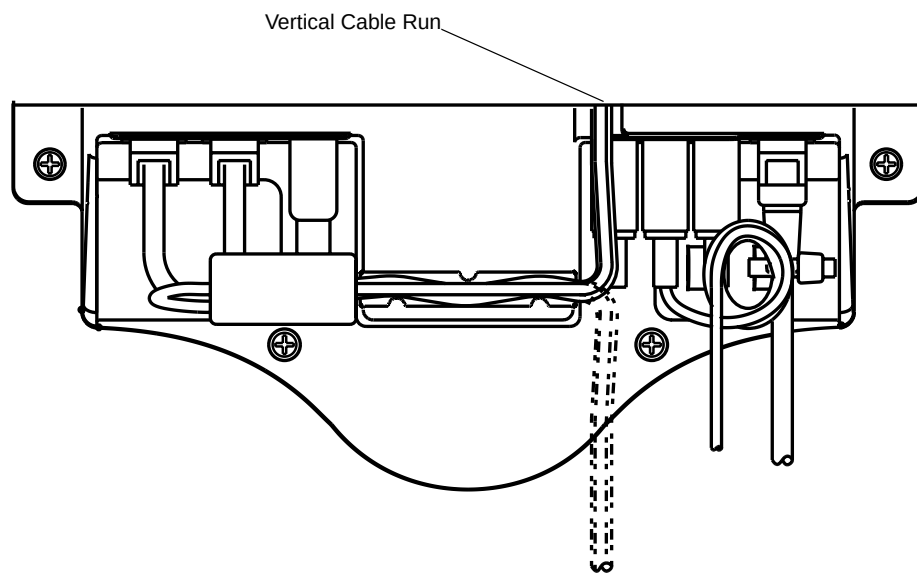

Figure 2-4 Cable Routing
3. Connect the cables to the MK2200 (see Figure 1-3 on page 1-5) and ensure the cables are routed and secured correctly (see Figure 2-4 on page 2-5). Cables incorrectly mounted or secured can become pinched when the MK2200 is attached to the Connector/Port Cover.